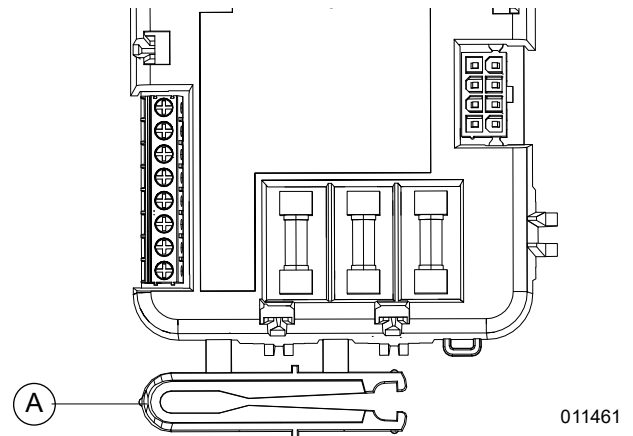

Figure 4-2. Fuse Removal and Installation Tool
See Figure 4-2. A fuse removal and installation tool (A) is included in the controller housing.